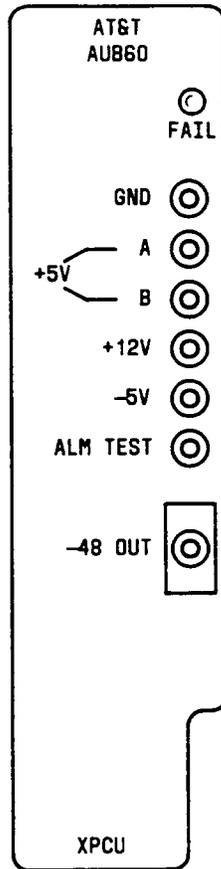

Figure 13 — XTC Power Converter Unit (AUB60)
2.22 Mounted on the faceplate of the XPCU circuit pack (Figure 13) are: